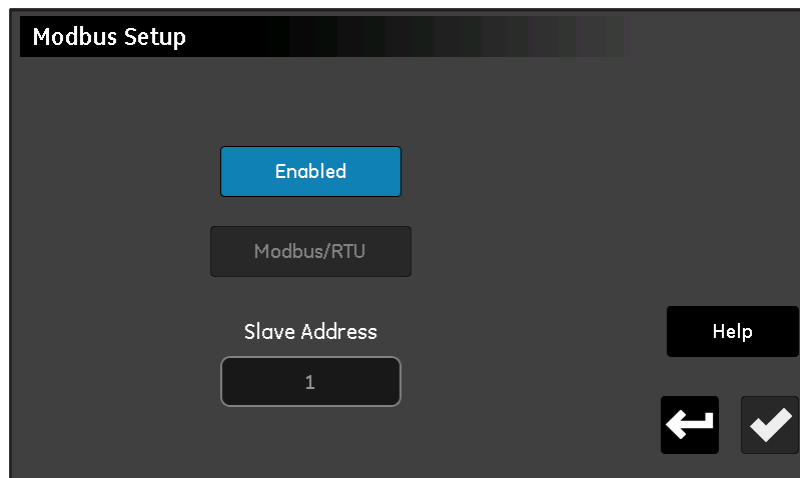

Figure 68: Modbus Setup Screen
1. From the *Configuration Menu* screen (see Figure 52 on page 59), tap the **Modbus** button to open a *Modbus Setup* screen similar to Figure 68 below.